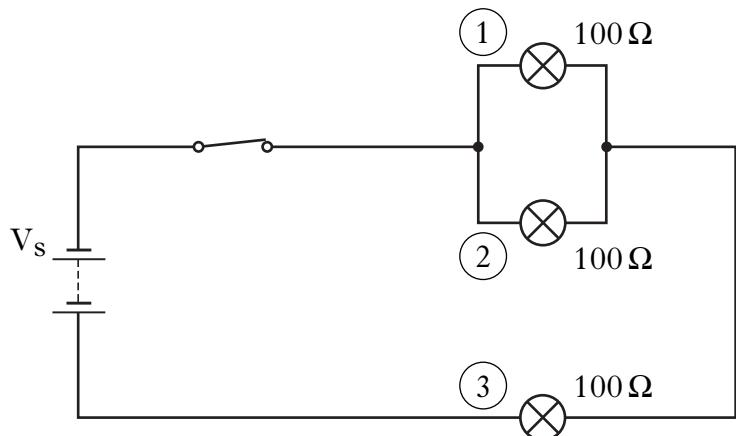

Figure Q5
5. An electrical circuit used to operate three lamps in a robotic arm is shown in Figure Q5.